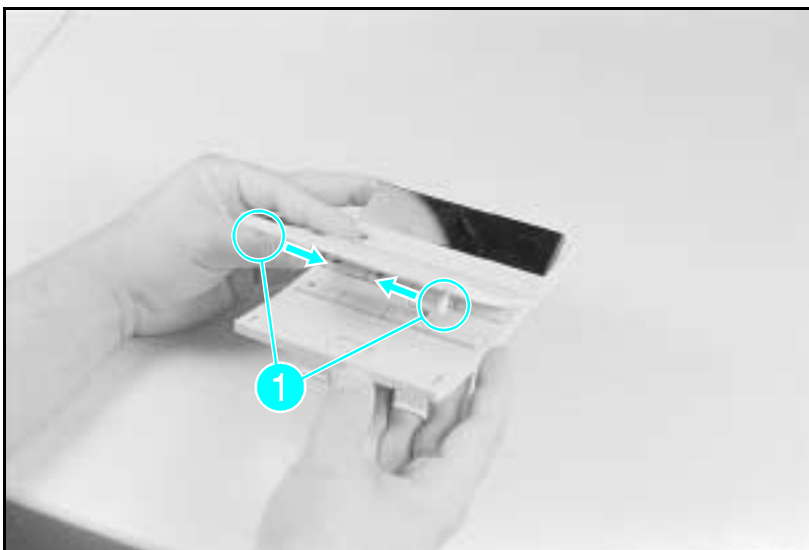

Figure 6-22 **Changing the Control Panel Overlay**
- 5** If you must replace the Control Panel Overlay, release the (2) retaining tabs from the Control Panel and separate the overlay from the Control Panel (see Figure 6-22, callout 1).
- 6** Squeeze the sides of the Control Panel Overlay to release the (2) tabs (see Figure 6-22, callout 1).